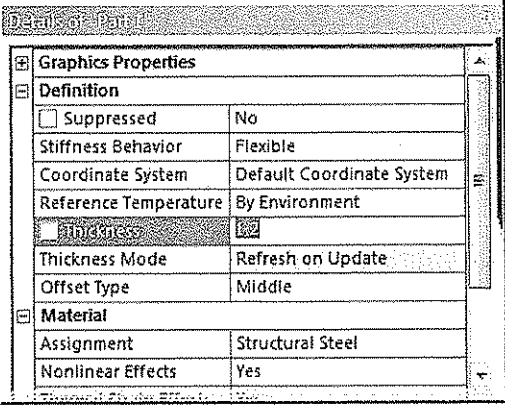

Figure 10-40 The Details of "Part 1" window
- 4. Enter **1.2** in the **Thickness** edit box to provide a thickness of 1.2 mm to the model, refer to Figure 10-40.